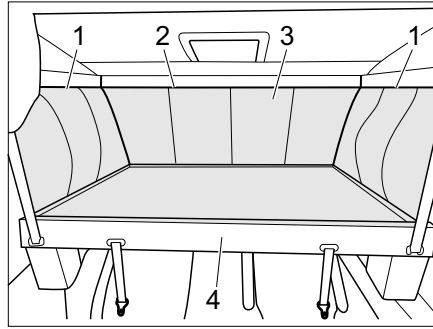

Fig. 83 Access to the blind box
- Lower the pull-down bed (Fig. 83,4) (see section 7.15.3).
- In order to release the pull-down bed sack (Fig. 83,3), open the side zips (Fig. 83,1) in the upper and front area from the front to back (Fig. 83,2).
- Remove the pull-down bed sack (Fig. 83,3) (Velcro fastener).